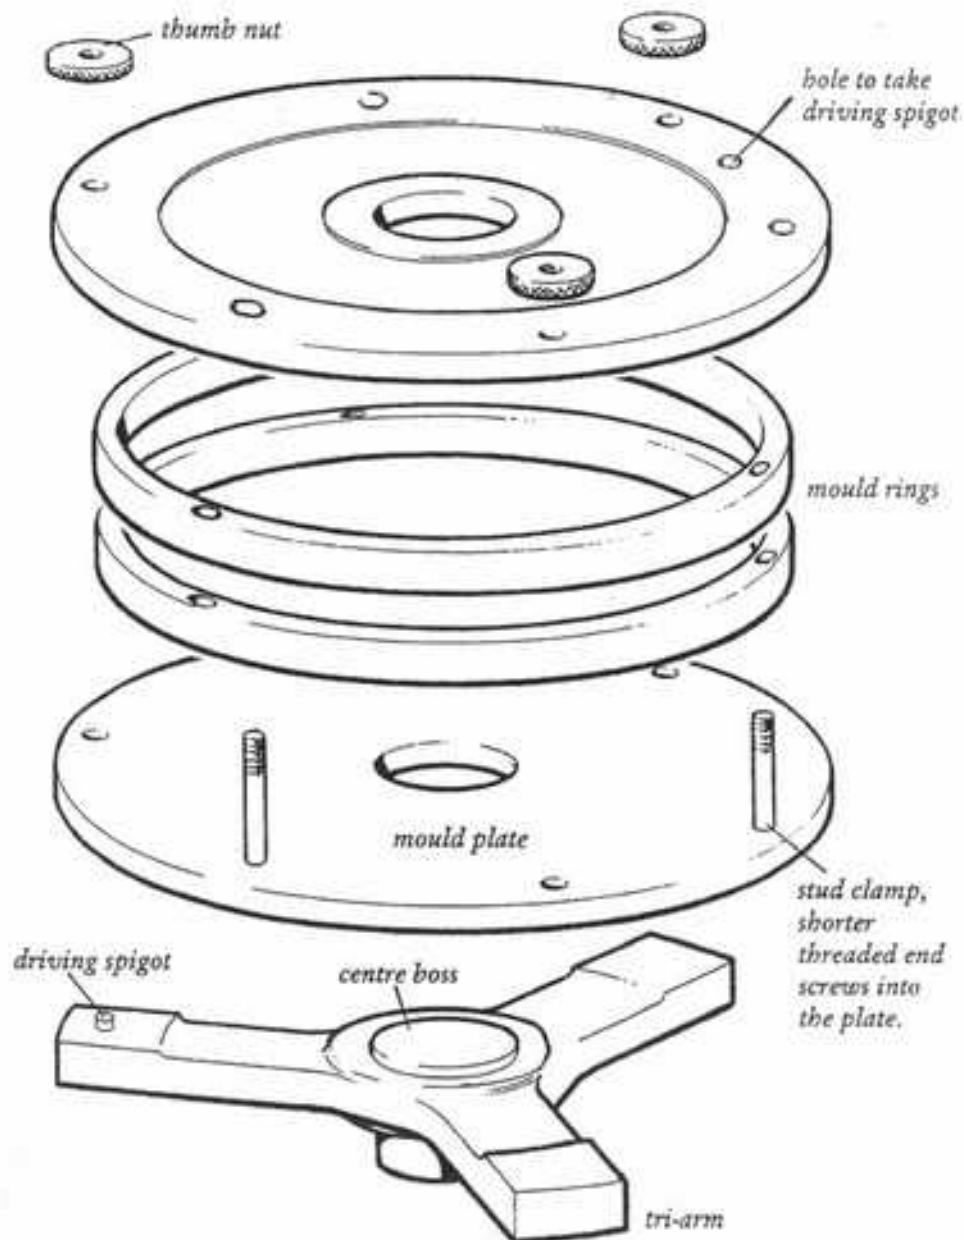
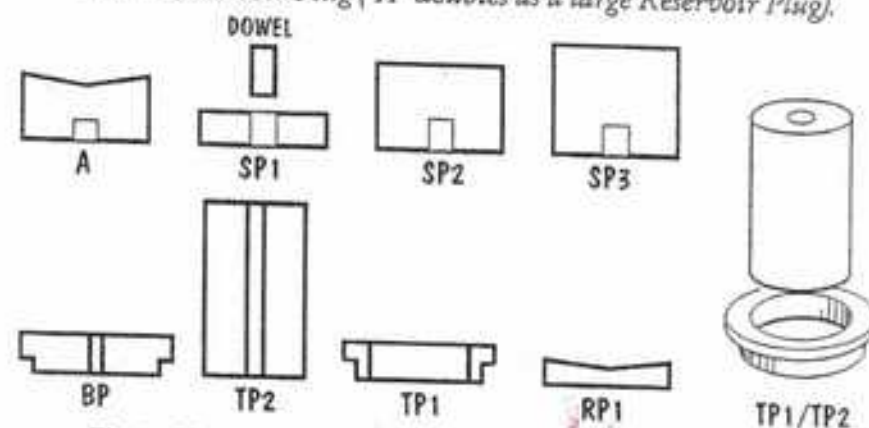
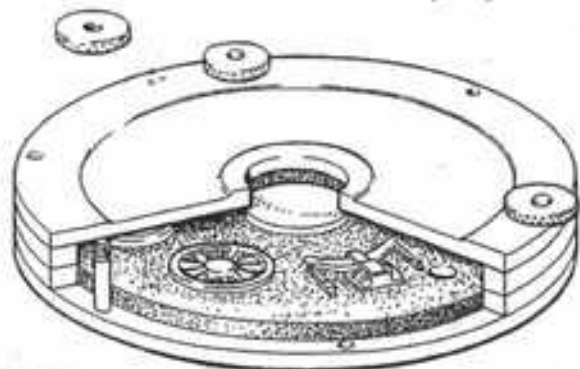

Fig.1 Exploded view of the C.300 mouldmaking and casting system. Top and bottom plates are identical.
Fig.5 Universal Former Plug Set and Dowel. Note how TP1/2 slide fit to adjust for various heights.
Fig.19 Cut out view showing the assembled system ready to spin in rubber
**The Casting and Mouldmaking System.** Figure 1 shows an exploded view of the system (see also Figure 19); these parts together with a set of former plugs (see Figure 5) are all that is required for mouldmaking and casting. Familiarise yourself with the parts and names, because they will be referred to in the mouldmaking section.
Starting with the bottom plate (Fig.1), the whole assembly is put together in the order shown. The stud clamp (Fig.3) is threaded each end, one end having less thread than the other. The lesser threaded end is screwed home into the bottom plate. The required rings are
The Universal Former Plug System will cover mould depths between ¼" - 2½" total thickness. The plugs will also cope with in between sizes too, because of the sliding TP1/TP2 (see Fig.5).
The parts of the moulding system are shown in Figure 1, and the previous Chapter deals in detail with the former plugs. The Manual will be constantly referring to these.
Do not use a stippling action, but try to flow the rubber on with the brush. Now pour more of the catalysed rubber until the rubber is virtually level with the top of the second ring. Then close the system up by adding the top plate and screwing it down with the thumb nuts (see Fig.19). Close the lid of the machine, set the speed to fairly slow, and switch on. The rubber will spin to the outside of the mould box (which is the ring/plate combination), creating a depression in the centre to which extra rubber has to be added. This is best achieved by adding rubber with a spatula (allow the machine to take the rubber off the spatula), adding small quantities until filled. When nearly full, turn speed down to slowest, and as the rubber starts to come up the central hole, switch off and top up the depression by hand, until the rubber is half way up the hole at least.